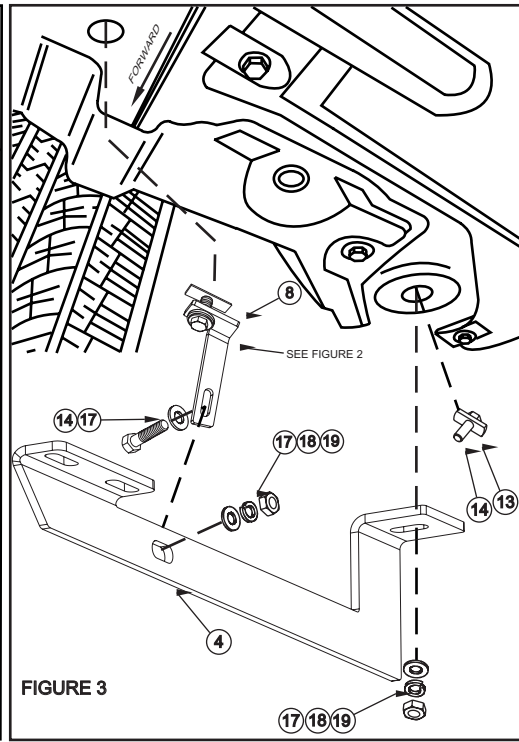

FIGURE 3
- STEP 7. Attach front bracket to bolt plate and then to support brace using 3/8" fasteners. **SEE FIGURE 3.**